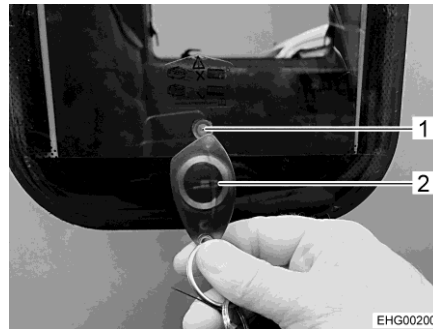

Fig. 51 RFID chip
- From outside, hold the RFID chip (Fig. 51,2) close to the sensor (Fig. 51,1) in the lower area of the window.
- ▷ If the living area door is locked or unlocked via the RFID chip, a LED on the sensor (Fig. 51,1) lights up briefly.